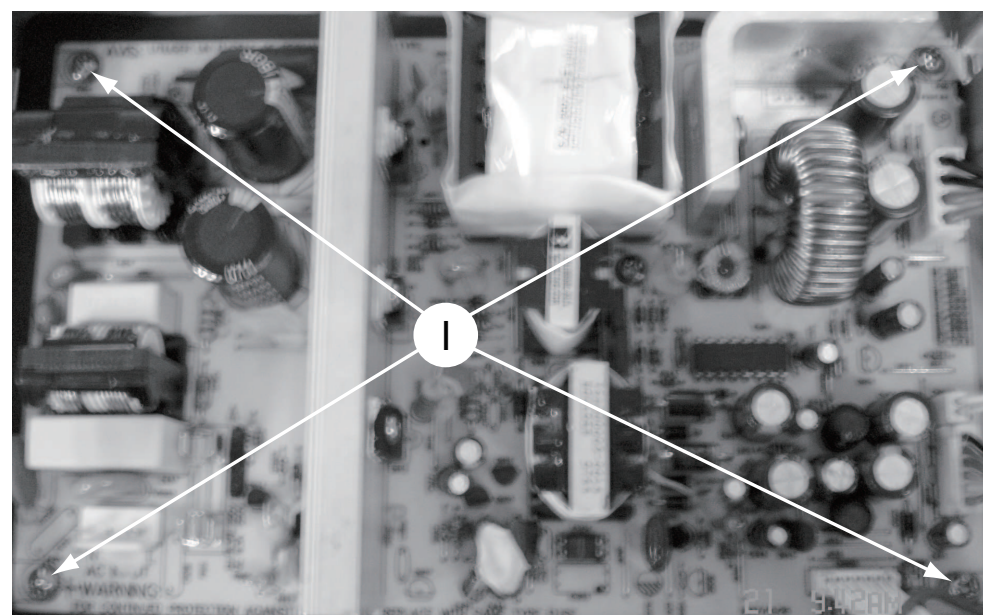

Figure 12
- 1) Loosen 4 screws “I” on the top of power board as shown in figure 12